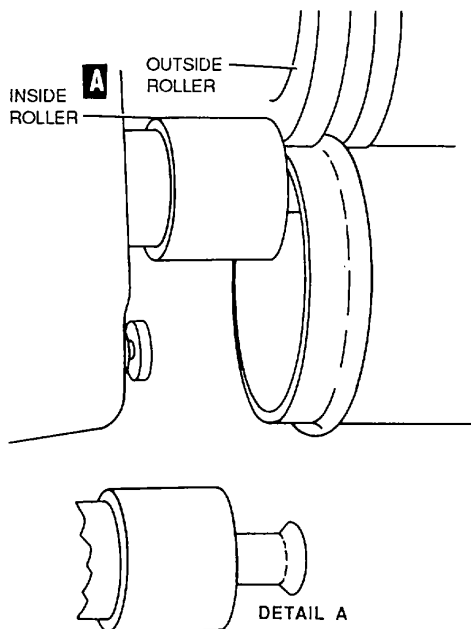

Figure 4-124. Beading Large Tubing
a. *Use.* The hand-beading tool is used with tubing having 1/4 to 1 inch outside diameter. The bead is formed by using the beader frame with the proper rollers attached. It is important that the proper rollers are used for a specific size of tubing. The operation of the tube beading tool is shown in figure 4-124. The general procedures are as follows:
(1) Lubricate the inside and the outside of the tube with light oil to reduce the friction between the rollers during beading.
(2) Install the tool on the tube as shown in figure 4-124.
(3) As the tool is rolled around the tube, intermittently screw down the roller until the desired bead dimension is obtained.